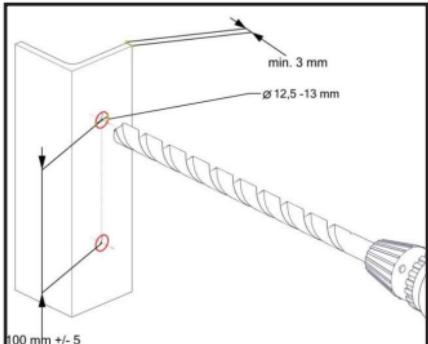

Fig. 3
+En caso de instalar el PAF 150 en una superficie de acero, esta debe tener un espesor superior a 3 mm. Taladre dos agujeros de 12,5-13 mm de diámetro espaciados a 100±5mm. (Fig. 3). La resistencia de la estructura de acero donde se vaya a instalar el punto de anclaje se debe calcular
- +In case of installing the PAF 150 on a steel surface, this must have a thickness greater than 3mm. Drill two holes 12.5-13 mm in diameter spaced at 100±5mm. (Fig. 3). The strength of the steel structure where the anchor point is to be installed must be calculated and must not be less than 12 kN. Fix the PAF 150 anchor point in the drilled holes